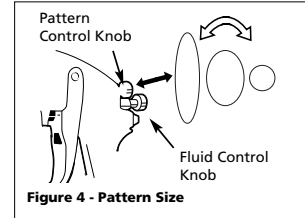

Figure 4 - Pattern Size
2. Set pattern size to desired shape. For full pattern, open pattern control knob by turning counterclockwise. For a round pattern, turn pattern control knob clockwise (See Figure 4).